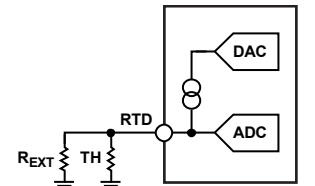

Figure 37. Temperature Measurement Using Thermistor
By connecting an external resistor (REXT) in parallel with the NTC thermistor (TH), a constant current can be used to achieve linearization (see Figure 37).